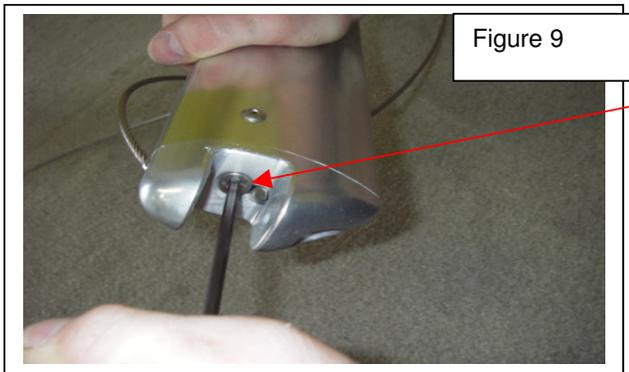

Figure 9
- 14. Remove the 6mm countersink head screw that holds the knuckle to the down tube using a 4mm Allen key (item 8 in exploded parts view, drawing 6476). Remove the knuckle completely. See figure 9.